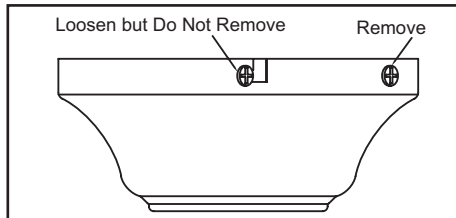

Figure 6
3. Remove the mounting plate from the canopy by loosening the four screws on the top of the canopy. Remove the two non-slotted screws and loosen the slotted screws. This will enable you to remove the mounting plate (Figure 6).
2. Remove the mounting plate from the canopy by loosening the four screws on the top of the canopy. Remove the two non-slotted screws and loosen the slotted screws. This will enable you to remove the mounting plate (Figure 6).